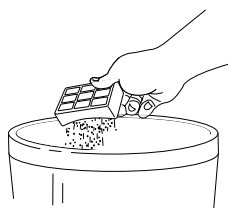

Fig. 22
- 3 Turn the filter over so that the dirty side is on the bottom and vigorously tap it clean over a trash receptacle. **(Fig. 22)**